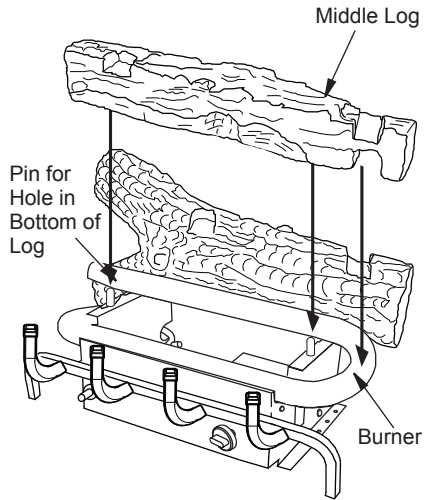

Figure 25 - Installing Middle Log
2. Place the middle log on base. Holes in bottom of log must seat over pins on base as shown in Figure 25.